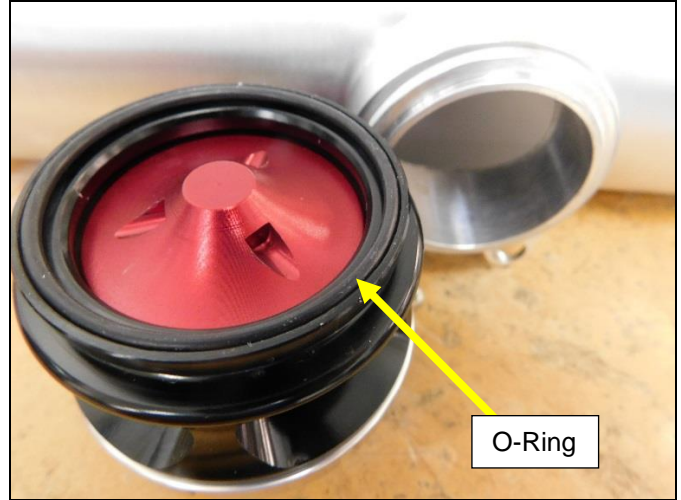

Figure 27
2. Install the O-ring supplied with the blow off valve into the blow off valve flange (**Figure 27**).